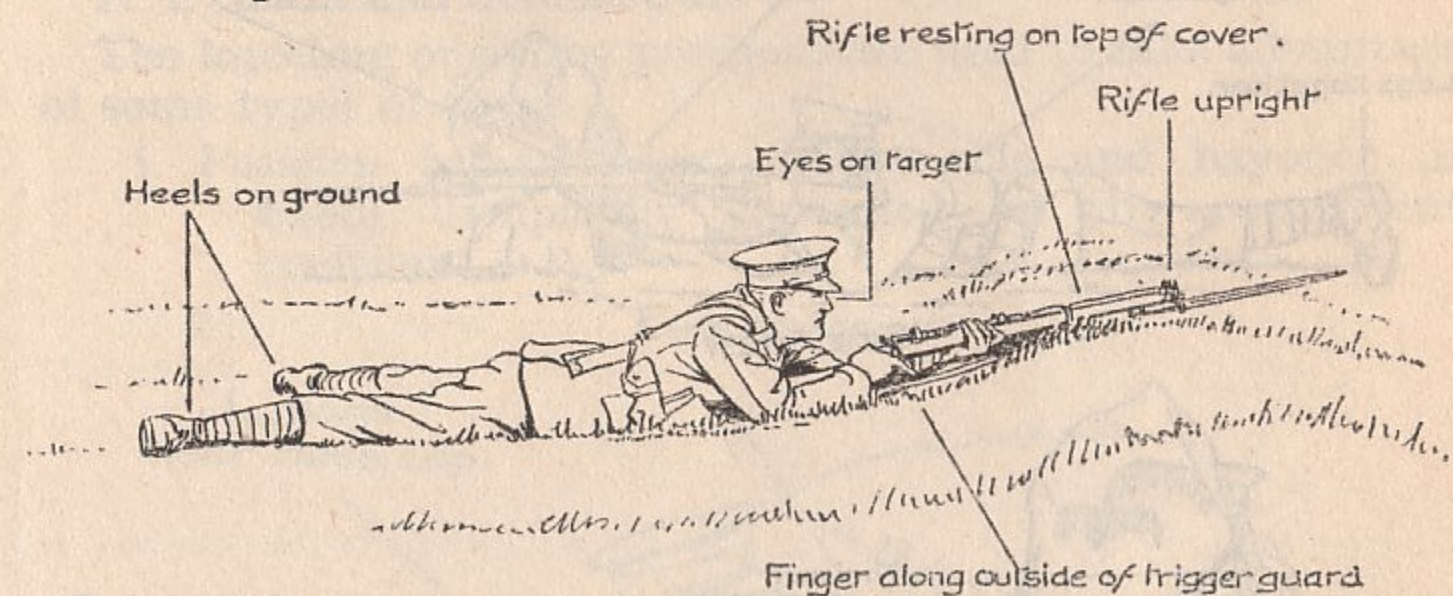

FIG. 25.
- ii. *Sight setting and position of readiness.*—Position of readiness will be adopted whenever a range is ordered or on the order "Stop." On the order "... hundred" being given, slide rifle cautiously forward on its side, set sights in most convenient way, turn rifle upright and rest it on top of cover with butt on ground (see Fig. 25).